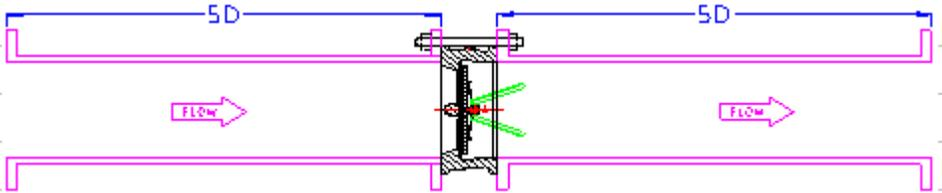

Fig.5.
- f. It will affect the turbulence, vibration, and abrasion within pipes when considering the flow. We suggest the pipes be installed by 5D-5D . ("D" means the diameter of the pipes.)(see Fig. 5)